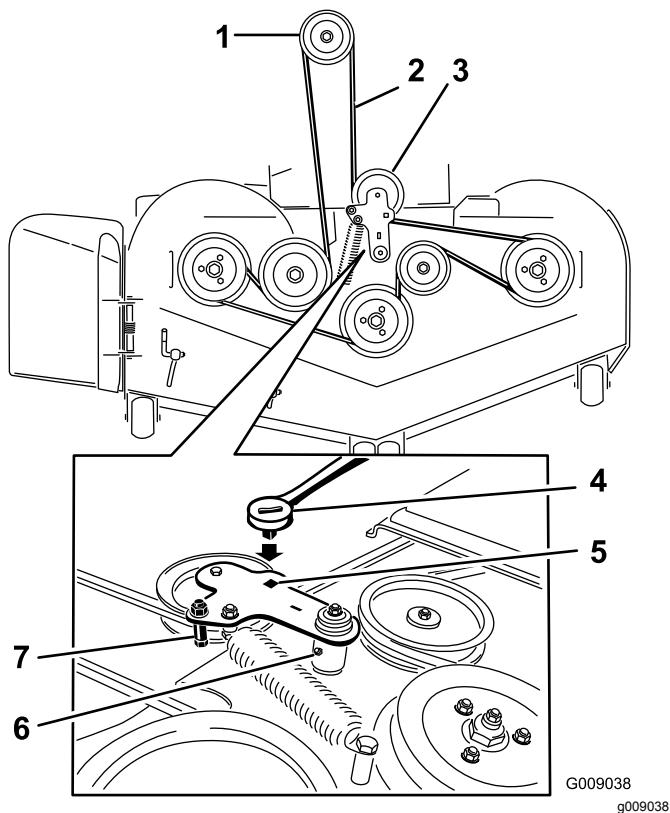

Figure 84
7. Use a ratchet in the square hole in the idler arm to remove tension on the idler spring (Figure 84).
9. Remove the belt guide on the spring-loaded idler arm (Figure 84).
11. Install the new belt around the mower pulleys and the clutch pulley under the engine (Figure 84).
- 12. Install the belt guide on the idler arm (Figure 84).
- 13. Using the ratchet in the square hole, install the idler spring (Figure 84).